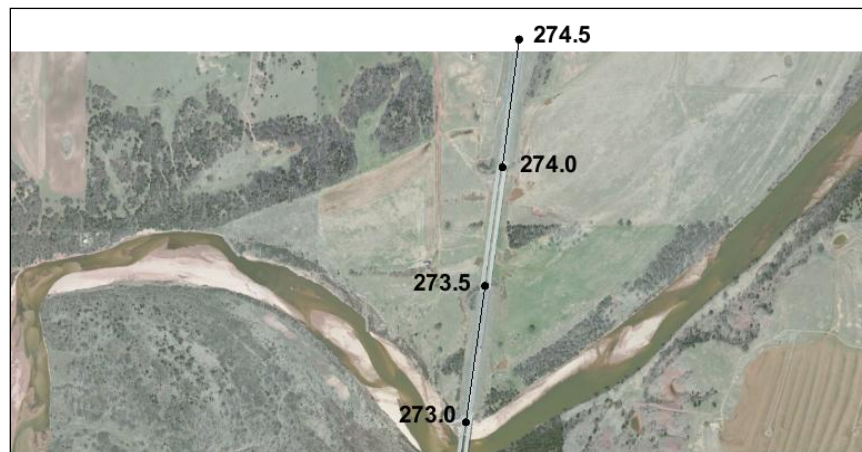

Figure 2 Roadway embankment arc and elevations
2. Using the **Create Feature Arc**  dynamic tool, click out two arcs for the road embankments as shown in Figure 2.
4. Repeat step 3 for each of the other three nodes, entering “274.0”, “273.5”, and “273.0”, as indicated in Figure 2.